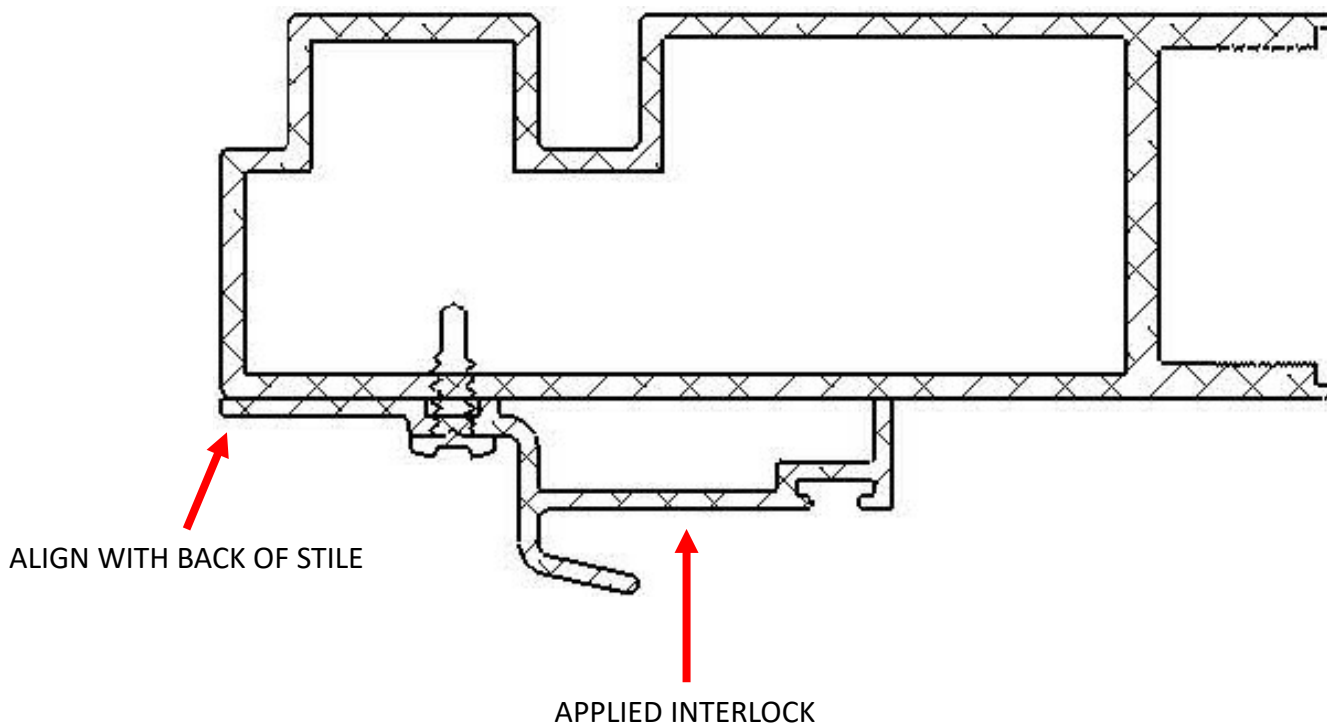

Fig. 7
8. Install the supplied applied interlocker extrusion onto the pocket panel rear stile. The standard option of pocket stile is shown below. Figure 7 shows a horizontal cross section of the pocket stile with the applied interlock attached. (A narrower pocket stile may have been supplied with your door than what is shown below.)